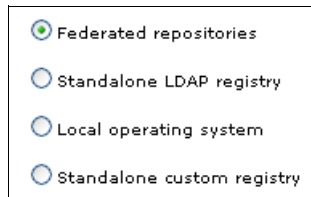

Figure A-61 Security Configuration Wizard: Step 2 for WebSphere Process Server
4. In Step 2, select **Federated repositories** and click **Next** (Figure A-61).